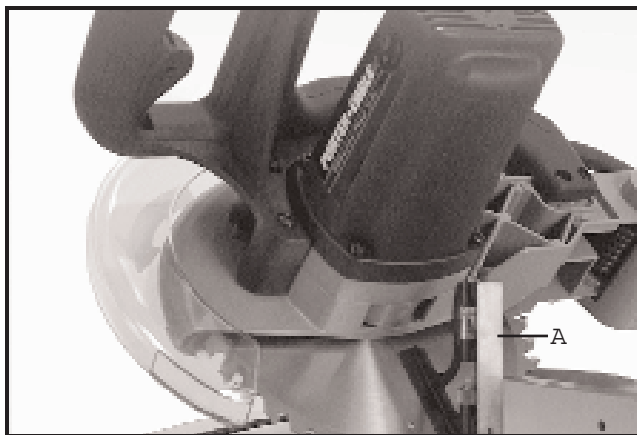

Fig. 31
7. Using a square (A) Fig. 31, check to see if the blade is at 45 degrees to the table, as shown.